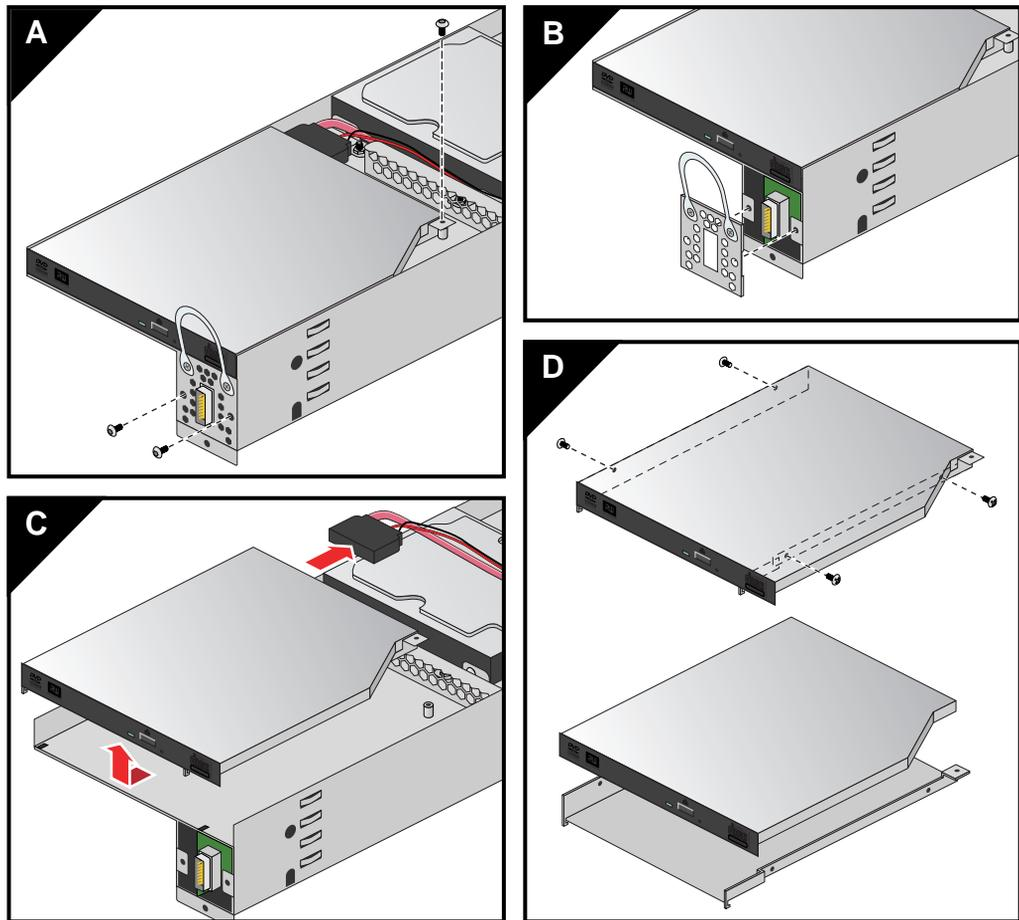

Figure 5-14 UV 100 DVD Removal
9. If replacing an existing DVD drive, unscrew the T10 Torx screw that holds the DVD's "L"-shaped retention bracket in place and set it aside, see Figure 5-14 for an example.